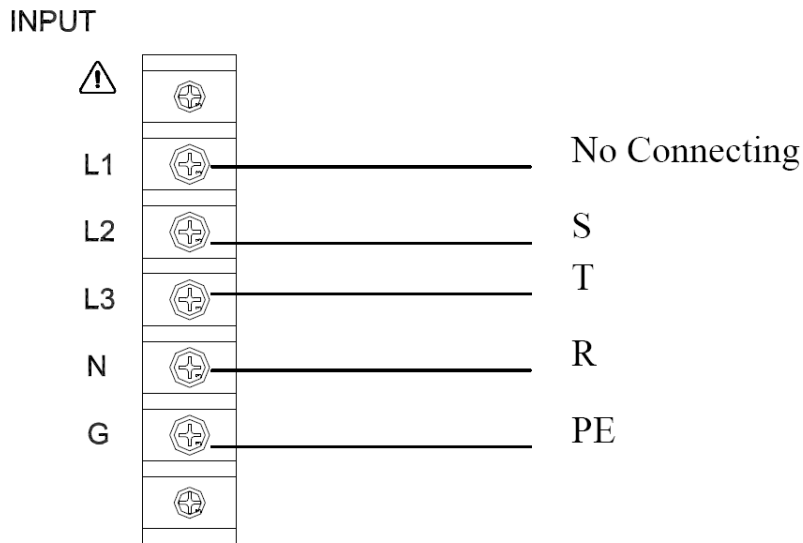
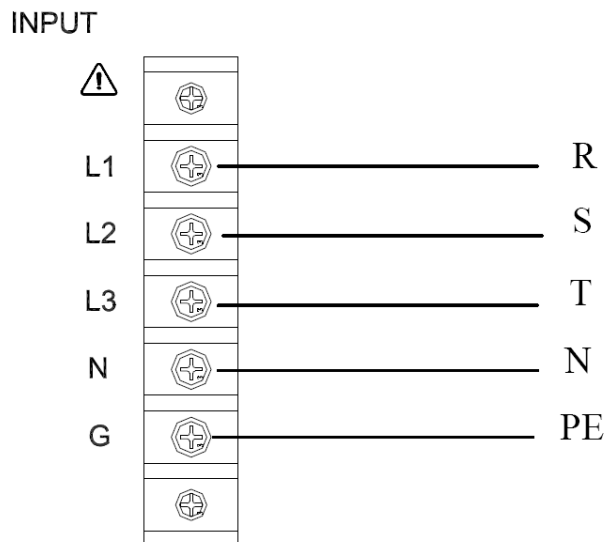

Figure 2-3 220V_{LL}, 3-phase 4-wire Δ Input Connection
Figure 2-4 380V_{LL}, 3-phase 5-wire Y input connection
- (5) To assemble the 42050: See Figure 2-3 & Figure 2-4